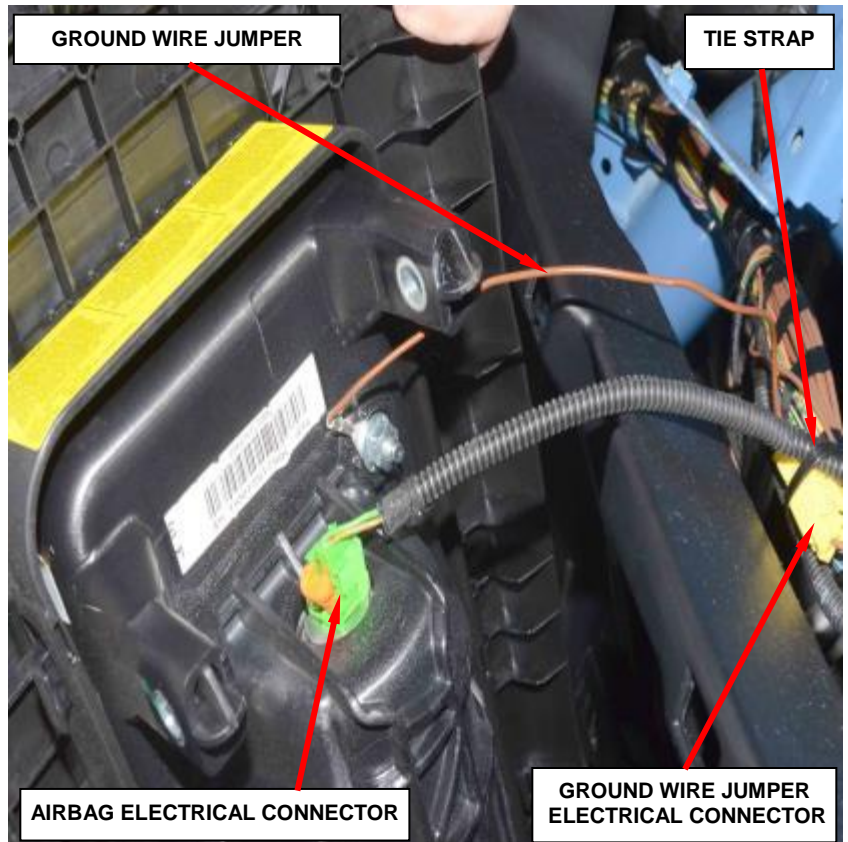

Figure 13 – Ground Wire Jumper
17. Remove and **discard** the tie strap securing the yellow ground wire jumper electrical connector to the instrument panel wire harness (Figure 13).
18. Disconnect the yellow ground wire jumper electrical connector from the instrument panel wire harness (Figure 13).
26. Connect the yellow ground wire jumper electrical connector to the instrument panel wire harness (Figure 13).
27. Secure the ground wire jumper electrical connector to the instrument panel wire harness using a **NEW** tie strap (Figure 13).